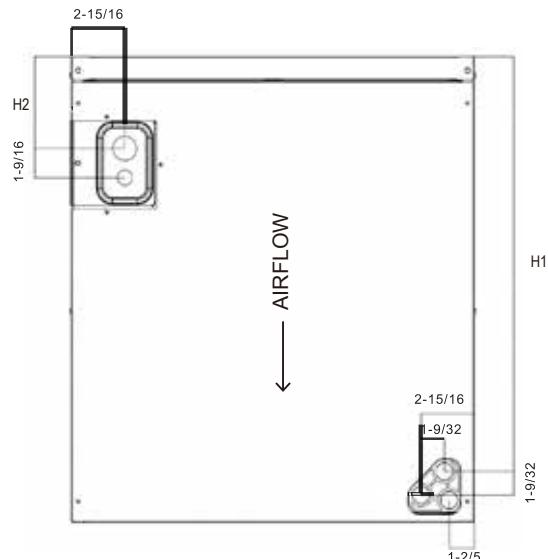
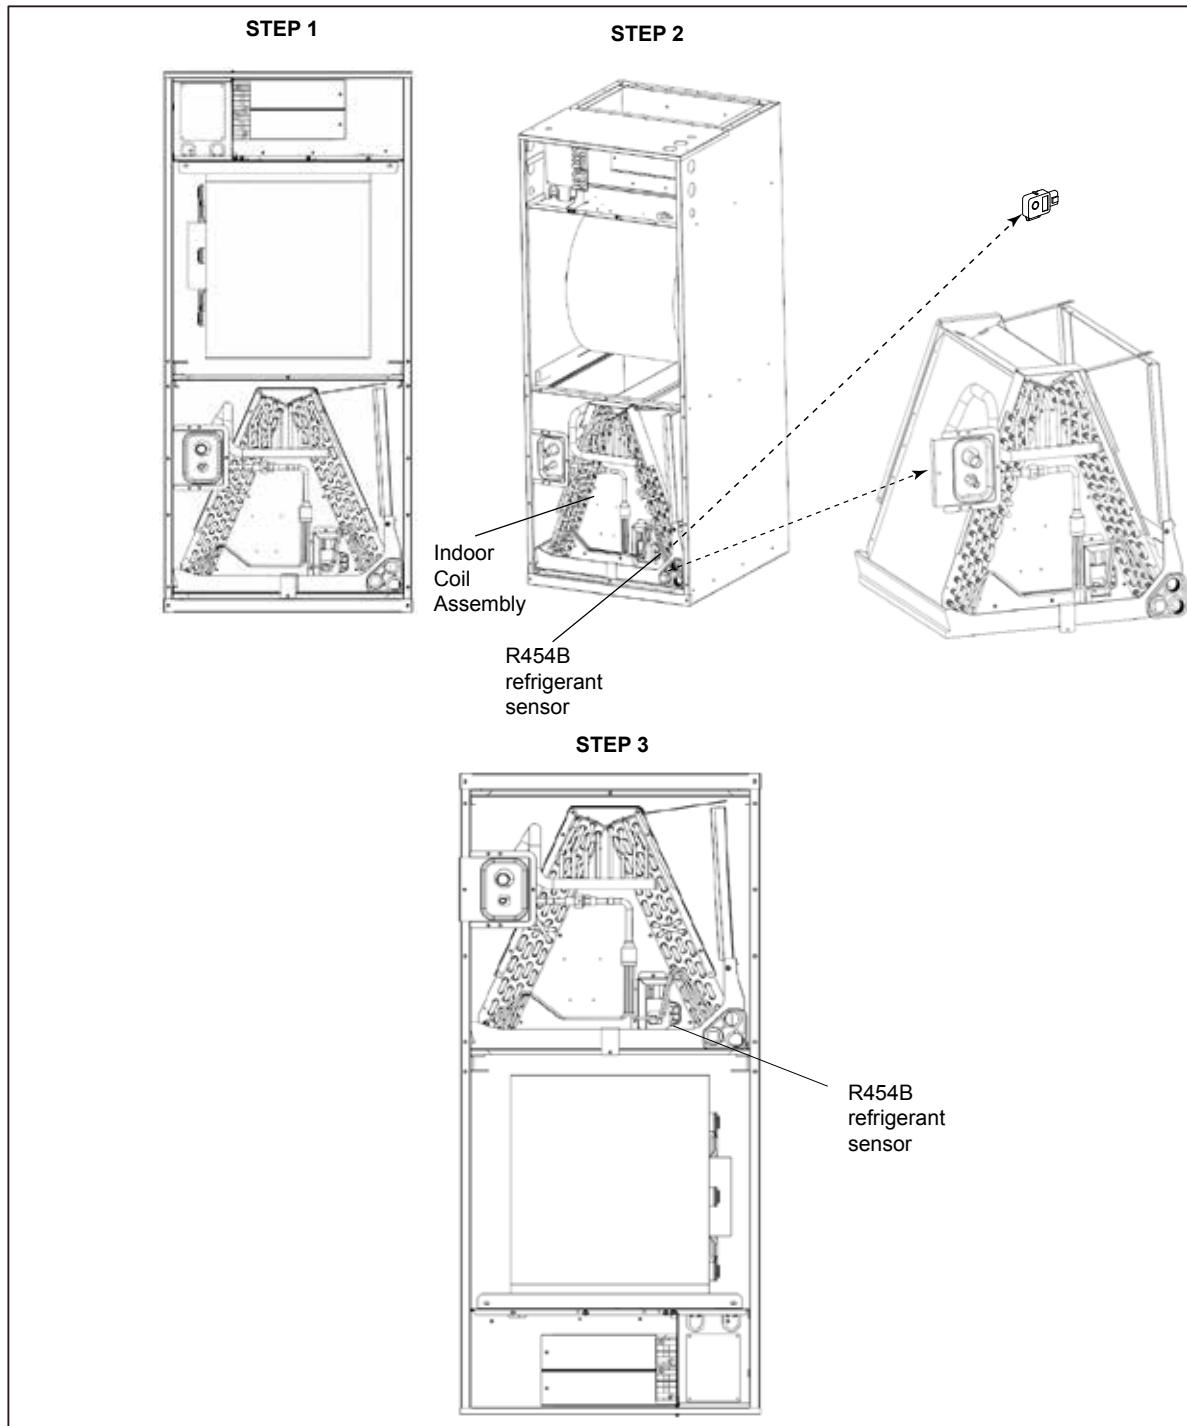

Fig.3-8 Dimensions for air handler (Coil Section)
Fig.3-9 Vertical Downflow & Horizontal Left Applications Conversion
A vertical upflow unit may be converted to vertical downflow. See Fig.3-8 and Fig.3-9.
- 1) Rotate unit into the downflow position, with the coil compartment on top and the blower compartment on bottom. See Fig.3-9.
- 2) Reinstall the indoor coil 180° from original position. Ensure the retaining channel is fully engaged with the coil rail. See Fig.3-9.
2. Pull out the coil with refrigerant sensor (Figure 3-9, Step 2).
3. Replace the coil in the correct orientation and secure in place. (Figure 3-9, Step 3).